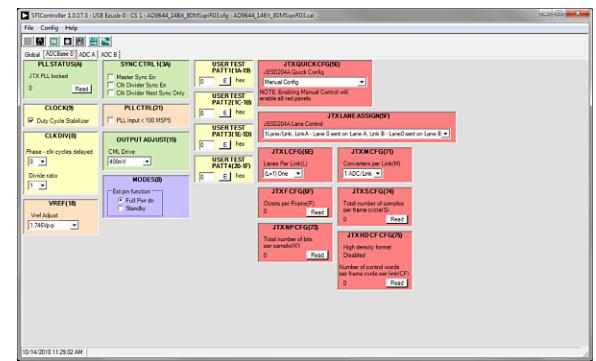
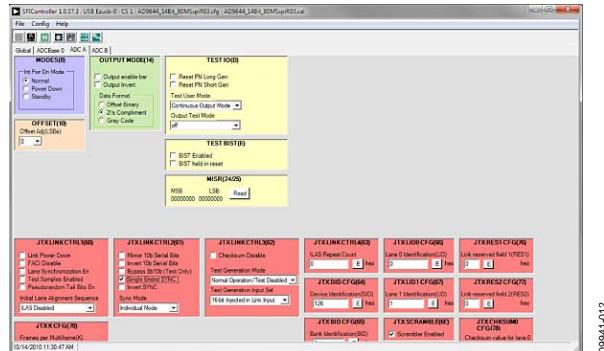

Figure 11. SPI Controller, CLKDIV(B) Box
Figure 12. SPI Controller, Example ADC A Tab
- In the **ADCBase 0** tab of the **SPIController** window, find the **CLKDIV(B)** box (see Figure 11). If using the clock divider, use the drop-down box to select the correct clock divide ratio, if necessary. See the AD9644 or AD9641 data sheet; the AN-878 Application Note, High Speed ADC SPI Control Software; and the AN-877 Application Note, Interfacing to High Speed ADCs via SPI, for additional information.
- Note that other settings can be changed on the **ADCBase 0** tab (see Figure 11) and the **ADC A** and **ADC B** tabs (see Figure 12) to set up the part in the desired mode. The **ADCBase 0** tab settings affect the entire part, whereas the settings on the **ADC A** and **ADC B** tabs affect the selected channel only. Note that for the AD9641, only the **ADCBase0** and **ADC A** tabs are available because the device is a single-channel ADC. See the AD9644 or AD9641 data sheet; the AN-878 Application Note, High Speed ADC SPI Control Software; and the AN-877 Application Note, Interfacing to High Speed ADCs via SPI, for additional information on the available settings.
- Set the single-ended **SYNC** check box in the **JTX LINK CTRL2** box on both the **ADC A** and **ADC B** tabs (or on only the **ADC A** tab for the AD9641) as shown in Figure 12. This sets the JESD input syncs to operate in singled-ended CMOS mode for compatibility with the FPGA configuration.